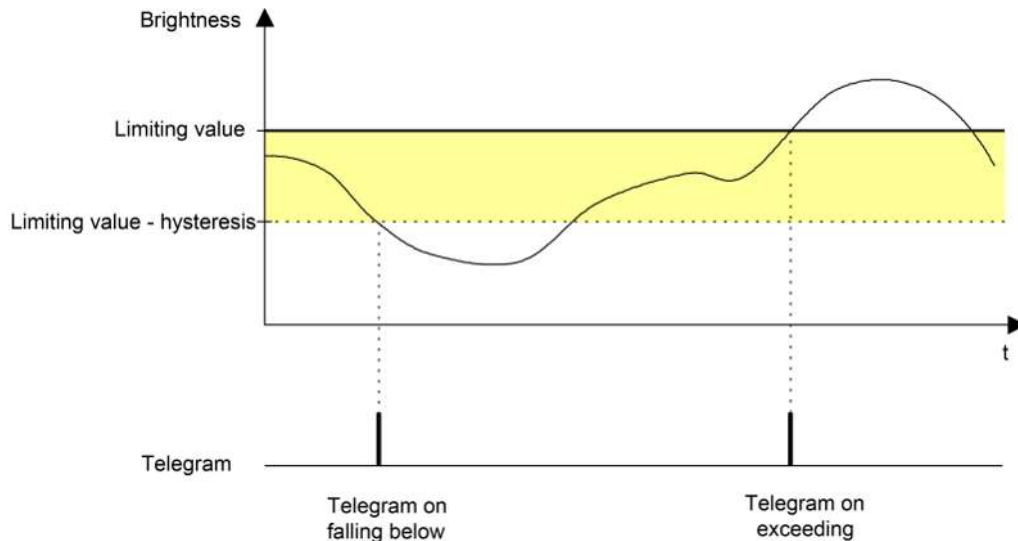

Figure 34: Example 1 of the limit value definition
1. Brightness limit value = upper threshold (see figure 34)